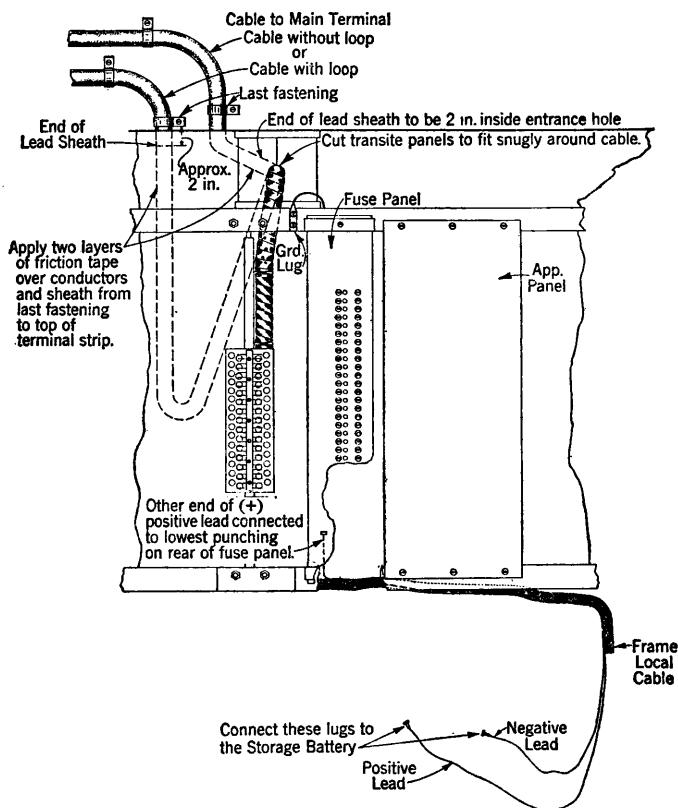

Fig. 1—Cabling of Cabinet—Front View
3.01 If the cabinet is to be placed in a closet or wall niche where the back will be inaccessible for installing cable, it usually will be necessary to run the cable to the cross-connecting terminal before placing the cabinet in position. In this case provide the cable with a loop as shown in Fig. 1. In other cases place cabinet before running cable.
3.33 Run the cable in accordance with job instructions and the Bell System Practices, leaving sufficient length at the ends for terminating. See Fig. 1 for method of entering cable at the apparatus cabinet. Cable sheath should be covered with two layers of friction tape wherever it might come in contact with the cabinet.
3.42 When a ground return central office battery feeder is installed run a No. 14 ground wire from the ground lug on the frame shown in Fig. 1 or from the ground terminals in the main cross-connecting terminal shown in Figs. 3 and 4 to a ground clamp on a cold water pipe as covered in the Bell System Practices. When a rectifier is installed this ground wire may be run to a ground rod if connection cannot be made to a suitable water pipe.
(a) Connect the (—) terminal of the voltmeter to the left-hand post of the No. 50-C protector mounting designated "CHG" when no "RHEO" fuse is used, otherwise connect to the bottom post of the protector mounting designated "RHEO" and the (+) meter terminal to the ground lug on the cabinet framework (See Figs. 1 and 7). Cut out all resistance in the Ward-Leonard resistor and the rheostat and remove the fuse from the protector mounting that is used for this test if previously installed.